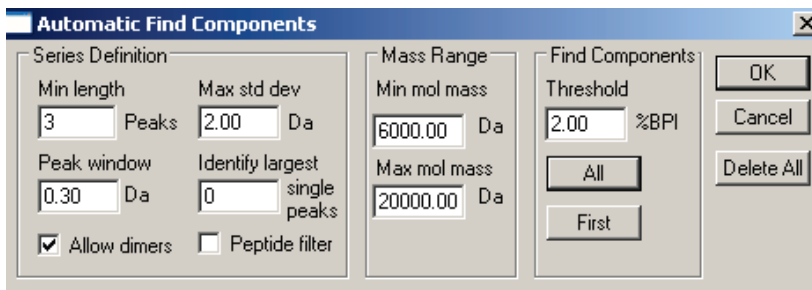

Figure 6: The Deconvolution menu of MassLynx
13. After calibration the mass of Myoglobin can be determined (deconvolution) by using the spectrum after mass measure should be used. Go to **Process** → **Components** → **Find auto** (Figure 6). Here give the mass range, for ex. 6000 to 20000 for Myoglobin and say find First. It returns the mass of the protein.
14. The mass of the sample if it is a protein, can be determined (deconvolution) by using the spectrum after mass measure should be used. Go to **Process** → **Components** → **Find auto** (Figure 6). Here give the mass range depending on the expected mass of the sample, and say find First. It returns the mass of the protein.